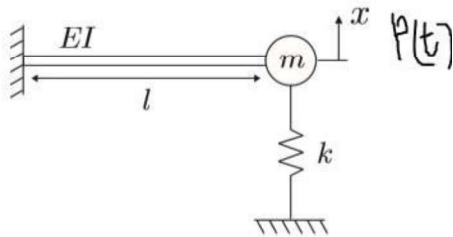

Figure-1
1. Write the equation governing the vibration of the system as shown in figure-1, formed of point mass attached to the tip of massless clamped beam of length l and bending stiffness EI and a spring with stiffness k .